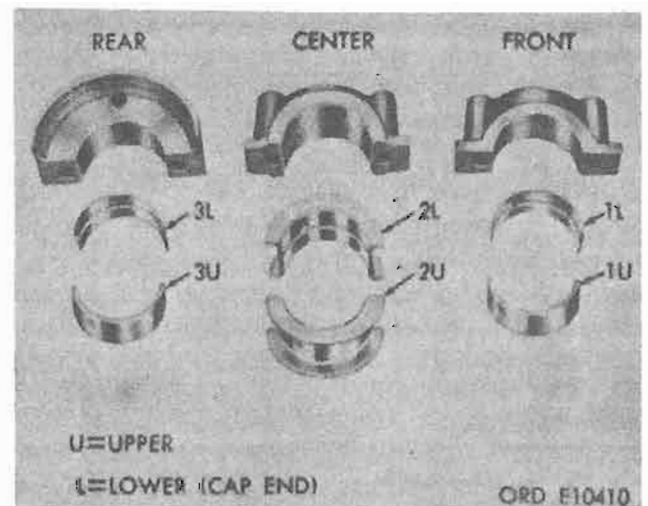

Figure 4-116. Main bearings.
f. *Main Bearings.* Remove the bearing halves in cylinder block main bearing bores. Be sure main bearings are marked showing their original position. Mark with grease pencil if no other marks are evident (fig. 4-116).